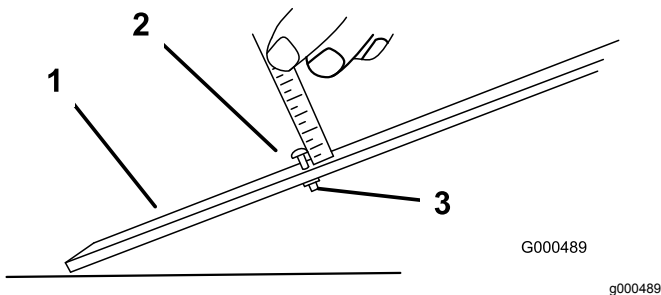

Figure 11
1. Loosen the nut on the gauge bar and set the adjusting screw to the desired height of cut (Figure 11).